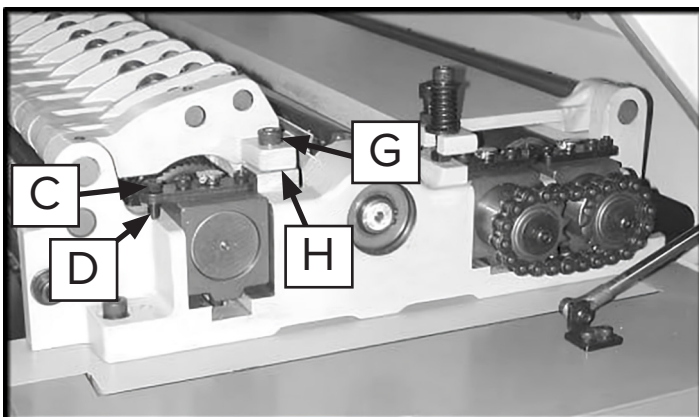

Figure 13: Infeed Roller adjustment.
3. Remove the feeler gauge and position the wood gauge (E, Figure) under the left side of the chip breaker (F, Figure 14). The top of the wood gauge should just touch the chip breaker. If it does not, remove the socket head cap screw (G, Figure 13) and the washer (H, Figure 13), or replace them with a shim of the correct thickness to adjust the height of the chip breaker until it contacts the wood gauge. Repeat this process for the opposite side of the chip breaker.